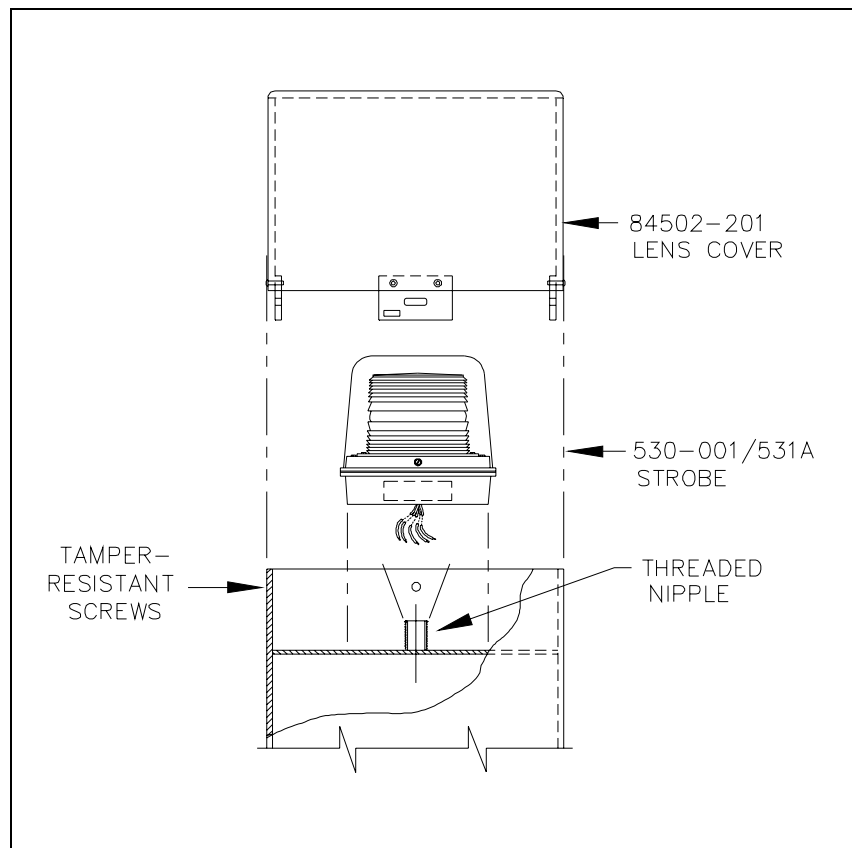

Figure 8. Strobe Assembly
1. Insert the strobe's seven 15-foot wires through the stanchion's threaded nipple, and allow the wires to extend to the base of the stanchion. See Figure 8.